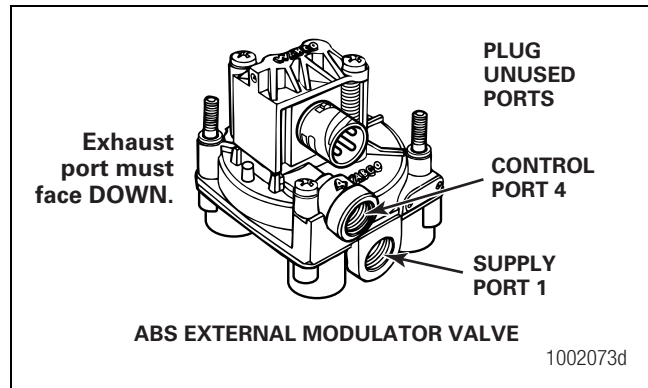

Figure 4
3. Rotate and tighten the relay valve assembly until the exhaust port faces down and the connection is secure. Use a torque wrench or ratchet with an extension at the 3/4-inch pipe plug installed on the front supply port. Figure 4.